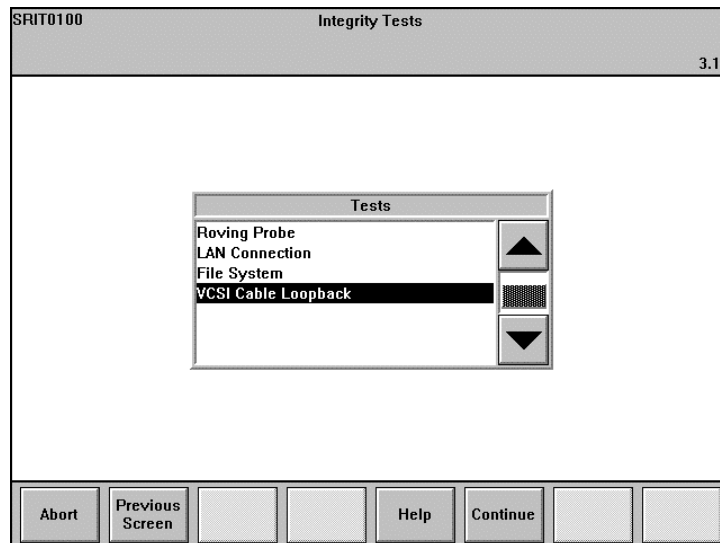

Figure 3
3. Move the selection bar onto VCSI Cable Loopback using the arrow at the foot of the dialogue box (Figure 3).